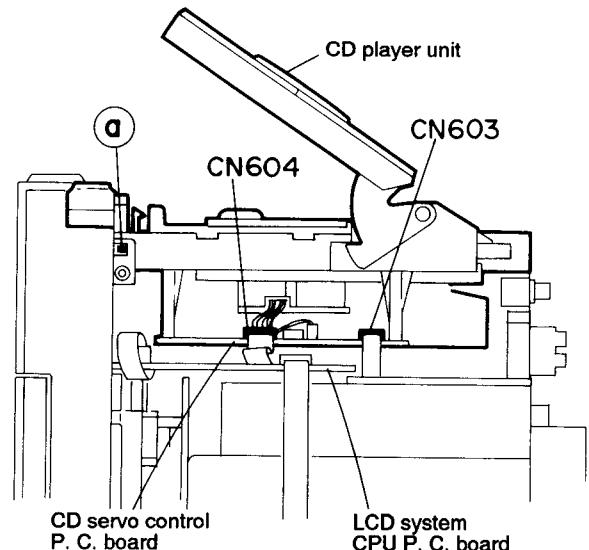

Fig. 5-7
(See Figs. 5-7 and 5-8)
3. From the connector CN603 on the CD servo control P. C. board, disconnect the card wire outgoing from the connector CN304 on the power amplifier P. C. board (See Fig. 5-7).
4. Disengage the left and right engagements ④ and ⑤ fixing the CD player unit by using a minus screw driver, etc. (See Figs. 5-7 and 5-8).